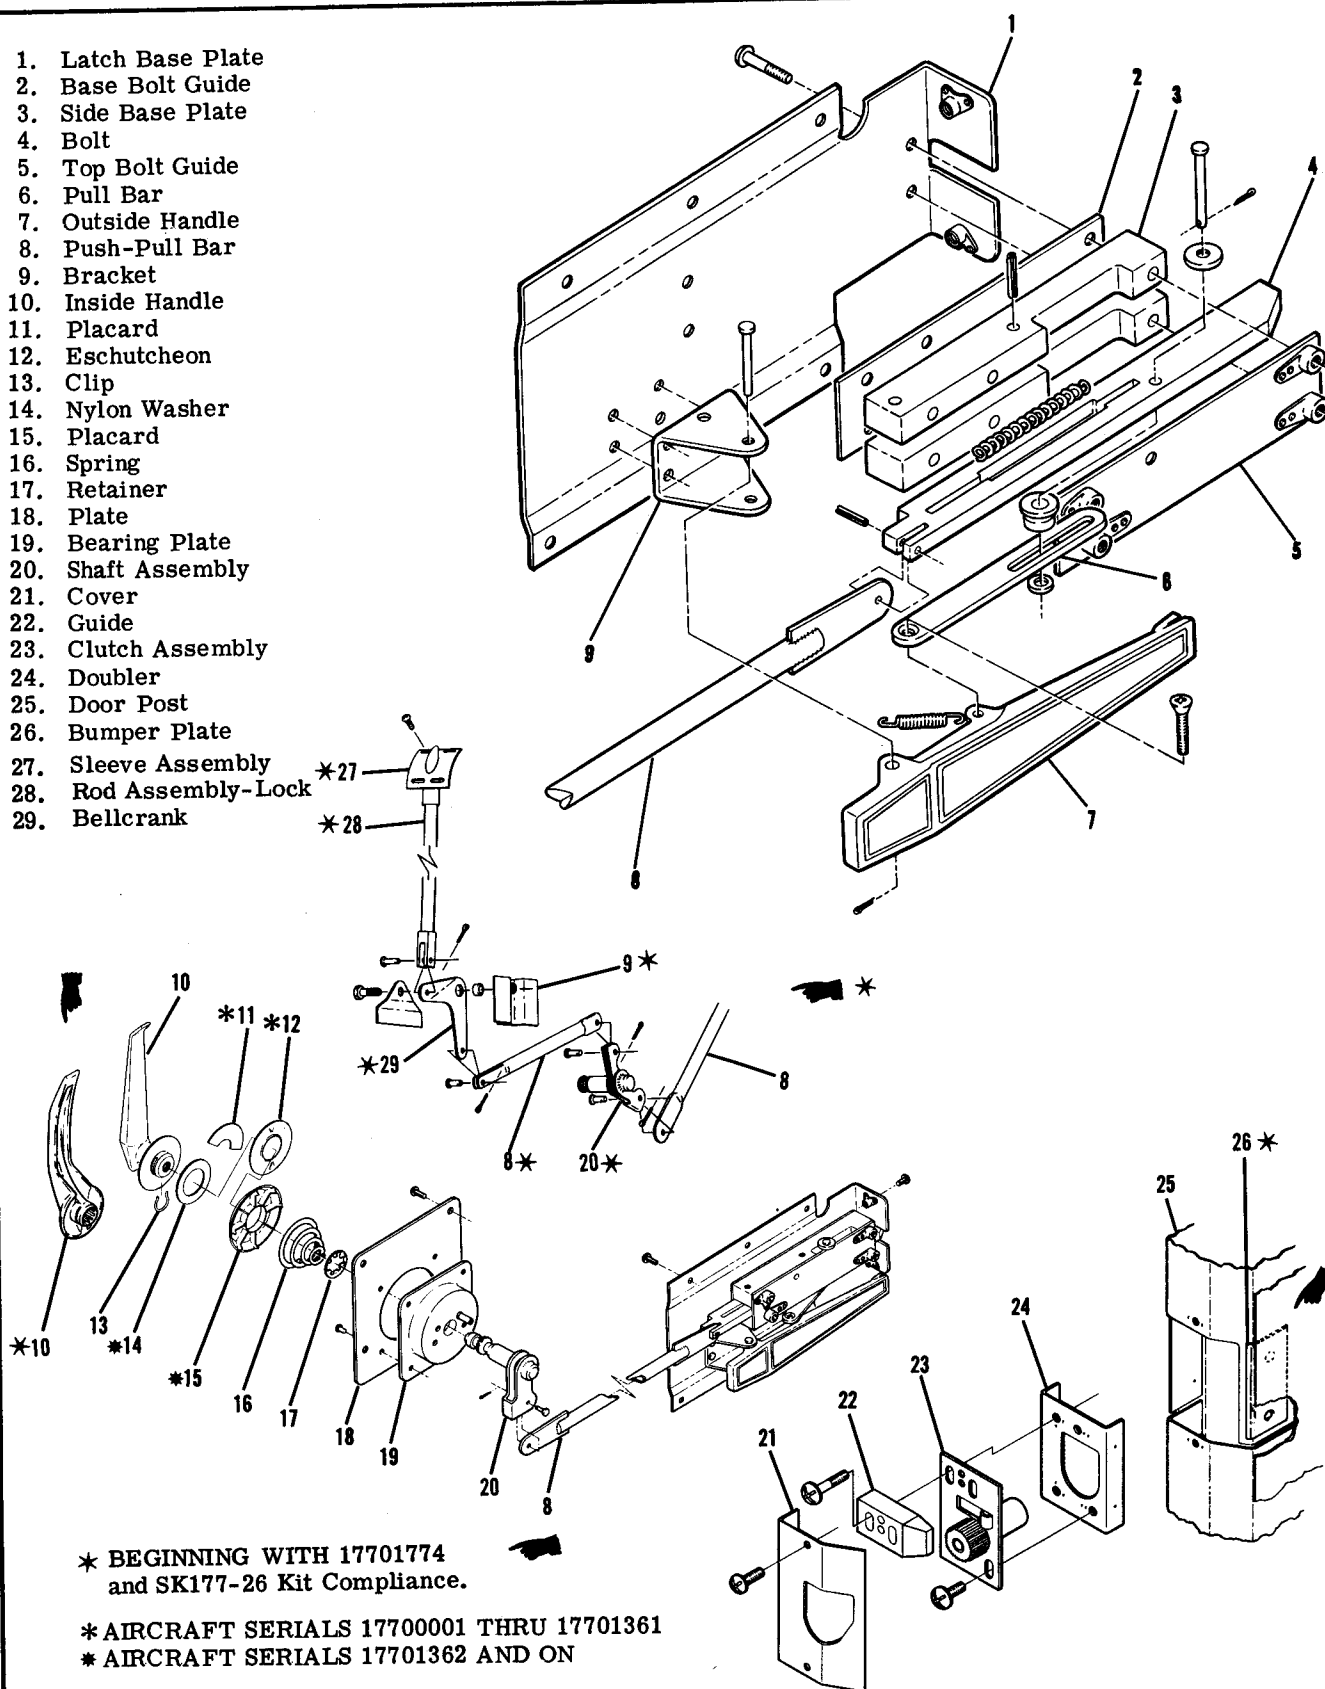

Figure 3-4. Cabin Door Latch
3-23. LATCHES. (Refer to figure 3-4.)
3-27. INDEXING INSIDE HANDLE. (Refer to figure 3-4.) When inside door handle is removed, reinstall in relation to position of bolt (4) which is spring-loaded to CLOSE position. The following procedure may be used:
- a. Temporarily install handle (10) on shaft assembly (20) approximately vertical.
- b. Move handle (10) back and forth until handle centers in spring-loaded position.
- c. Without rotating shaft assembly (20), remove handle and install placard (15) with CLOSE index at top and press placard to seat prongs.
- d. Install nylon washer (14).
- e. Install handle (10) to align with CLOSE index on placard (15) and install clip (13).
- f. Ensure bolt (4) clears doorpost and teeth engage clutch gear when handle (10) is in CLOSE position.